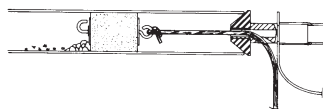

Figure 14
- Tie the pull line securely to the line carrier to prevent loss in the conduit (Refer to Figures 14 and 15).